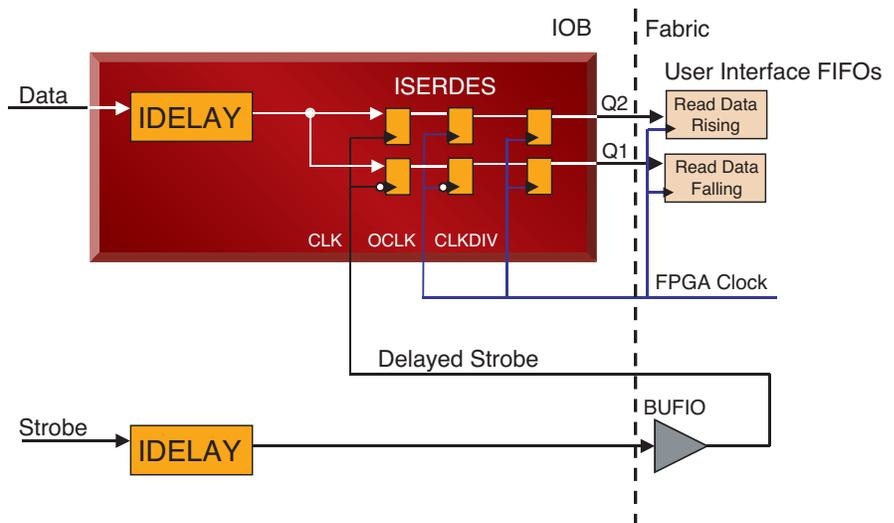

Figure 1 – Virtex-4 direct-clocking read data capture path
- The “direct-clocking” technique delays the read data so that it can be directly registered using the system clock in the input DDR flop of an I/O block. The memory strobe is only used during calibration to determine the optimal time to delay the associated data. Figure 1 shows the direct-clocking read capture path.